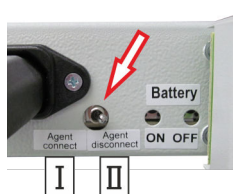

Fig. 15: Blocking switch
- Switch the blocking switch (Fig. 15 /arrow) to "Agent disconnect [blocked]" (Fig. 15 / II) prior to the return transport of the complete system.